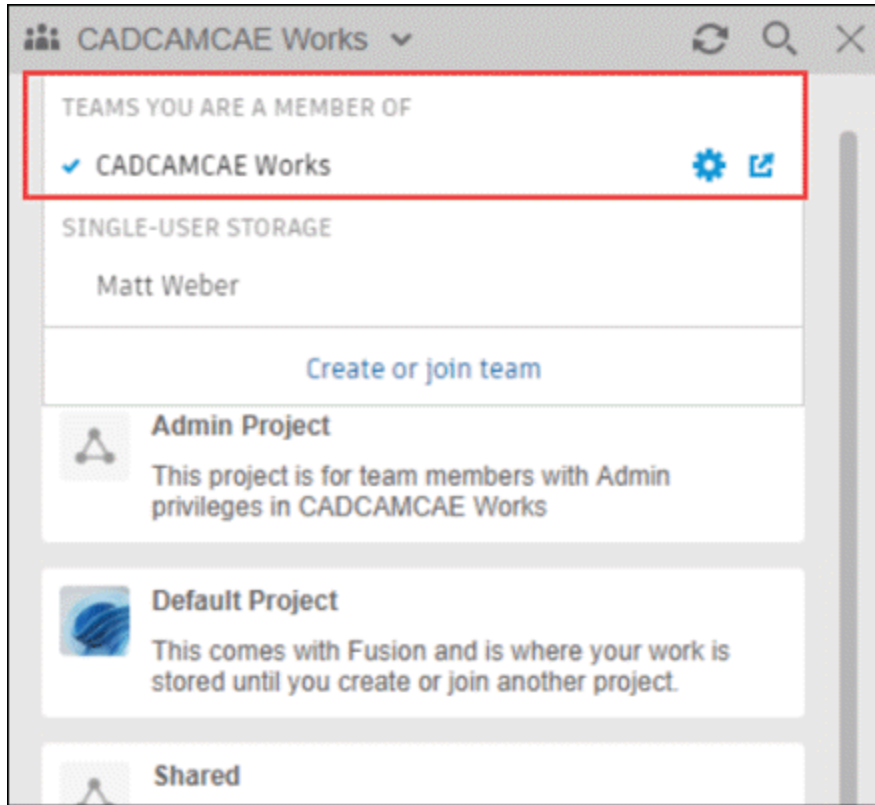

Figure-108. Team added in Data Panel
- Select desired radio button from the dialog box and click on the **Create** button. A message box will be displayed tell you that a team with your specified name is created. Click on the **Go to team** button from the information box. Name of the team will be added in the **Data Panel**; refer to Figure-108.